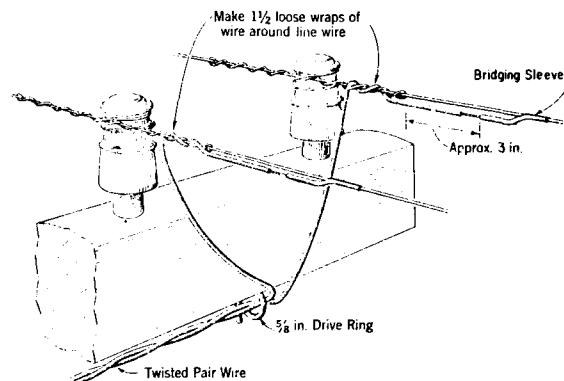

Fig. 10 — Where Line Wires Are Tied to Pin-Type Insulators
5.01 In general, connect twisted pair wire to open wire attached to glass insulators or deadend brackets as illustrated in Fig. 10, 11, and 12. As an alternate, bridging connectors may be used in lieu of bridging sleeves. However, in localities where corrosion of the bridle wire occurs adjacent to the bridging connector, connect to open wire as covered in 5.02 or 5.03 depending on the severity of corrosion.